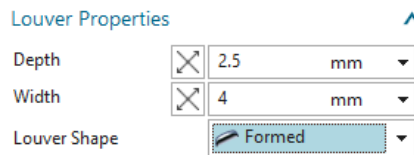
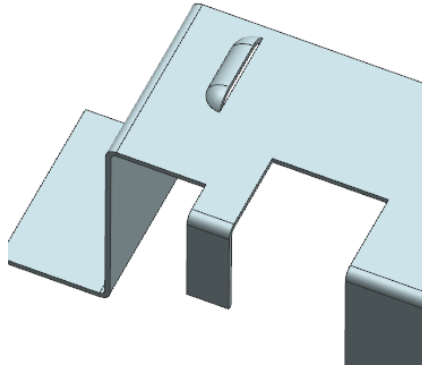

Figure 14-118 The settings required for the louver to be created
Figure 14-119 Louver created on the top face
4. Specify the settings in the **Louver Properties** rollout, as shown in Figure 14-118, in the **Louver** dialog box for the louver to be created. Choose the **OK** button; the louver is created, as shown in Figure 14-119.